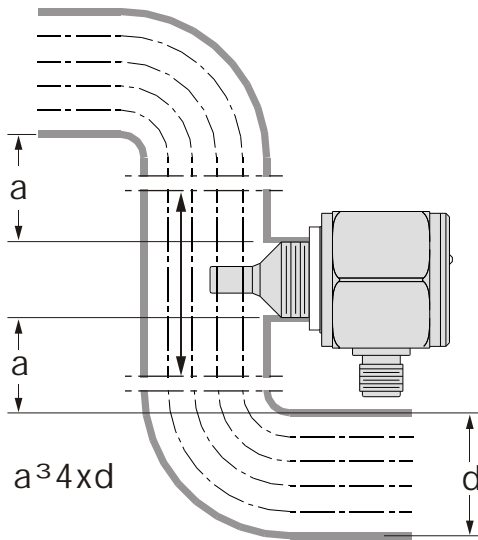

Fig. 1
1. "a" above and below the SP in diagram 1 has to be 4 times greater than its internal diameter of pipe.(Fig. 1)